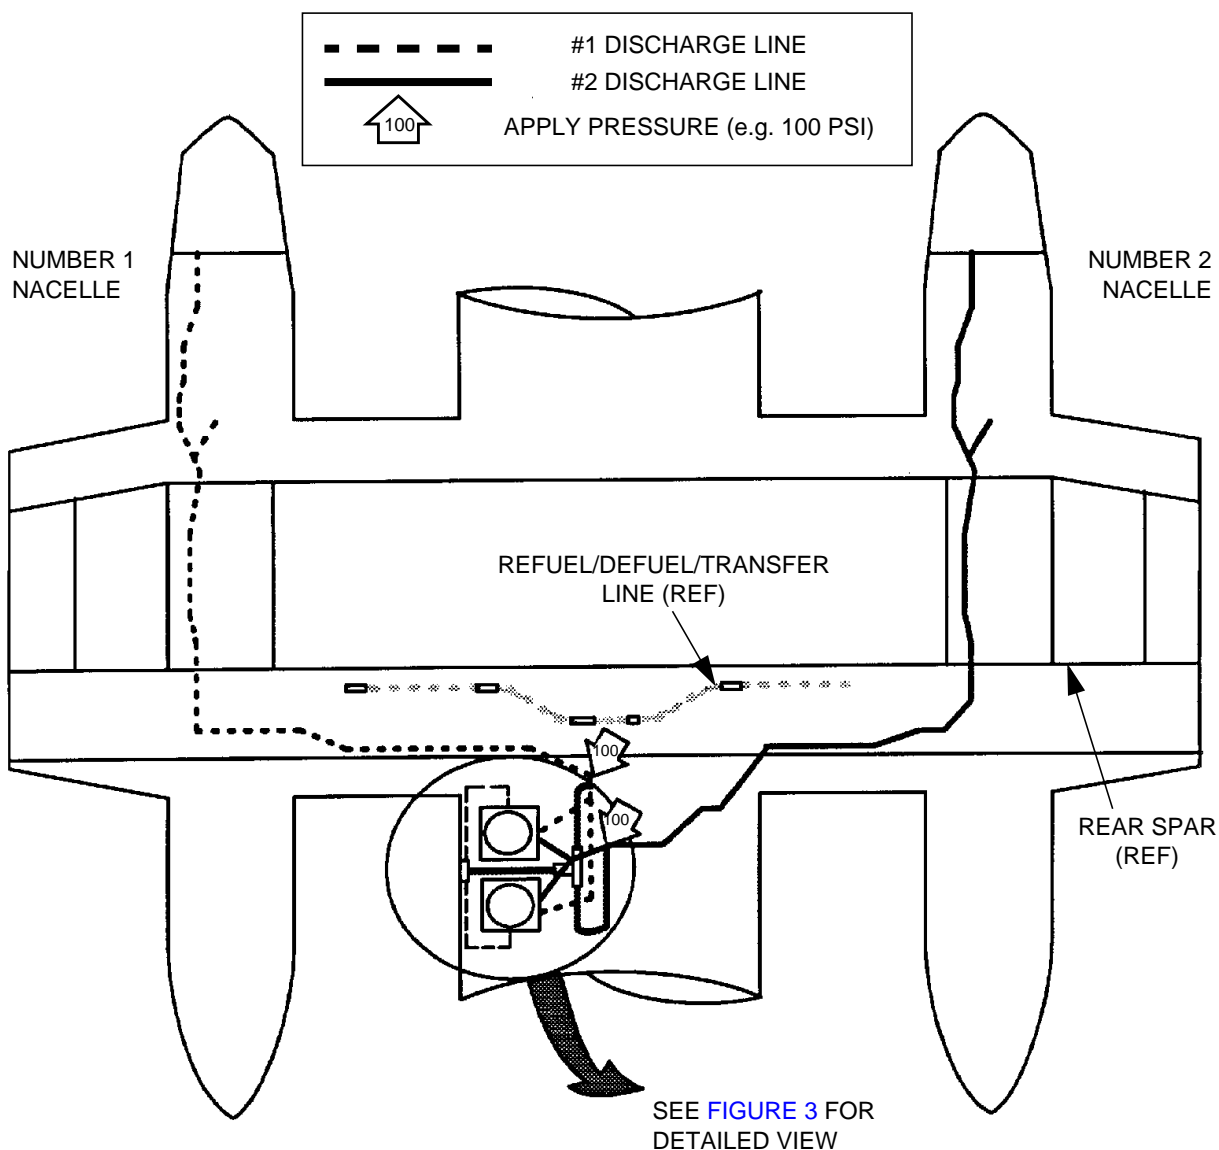

Figure 2 - Pressure Test of #1 & #2 Nacelle Firex Discharge Lines
5.5.1 Pressure test Series 100, 200 and 300 nacelle discharge lines as follows (see Figure 2):